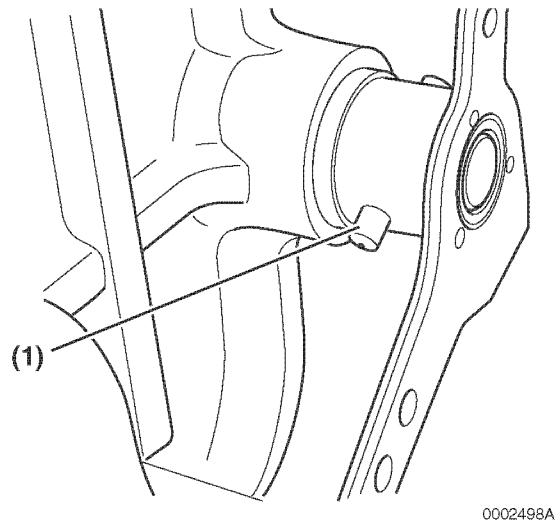

Figure 6-80
3. Remove the pin (**Figure 6-80, (1)**) fastening the speed control lever to the throttle shaft. The pin is tapered and must be driven out in the correct direction. Use a pin punch to drive the tapered pin out. Use square solid blows because the pin is held very tightly in the hole.